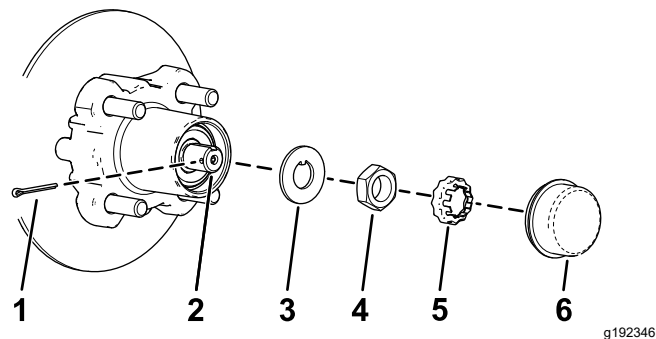
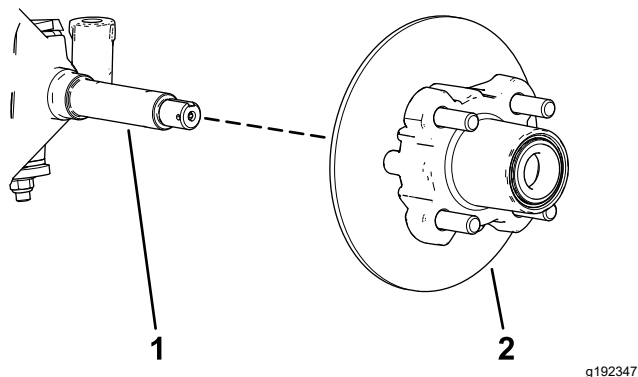

Figure 22
Figure 23
4. Remove the dust cap from the hub (Figure 22).
5. Remove the cotter pin and nut retainer from the spindle and spindle nut (Figure 22).
6. Remove the spindle nut from the spindle, and separate the hub and rotor assembly from the spindle (Figure 22 and Figure 23).